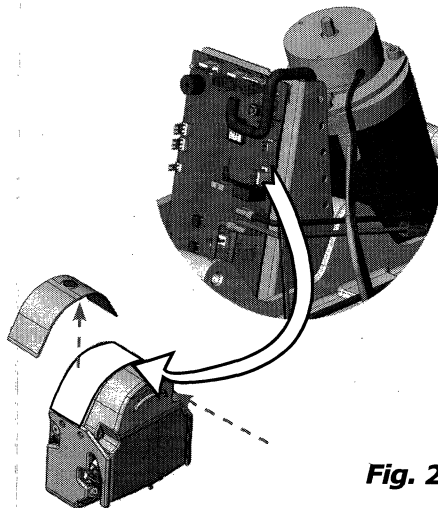

Fig. 2
2. Remove top mid panel of control enclosure to expose circuit board (Fig. 2).